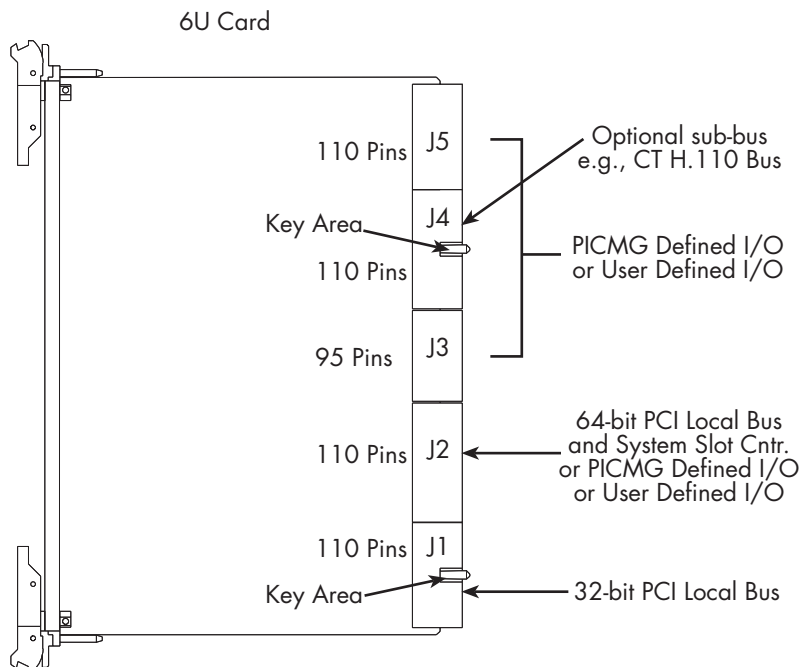

Figure 8. J1 through J5 connectors on the 6U card
- 6U cards—J1-J5 (see figure 8 on page 30)